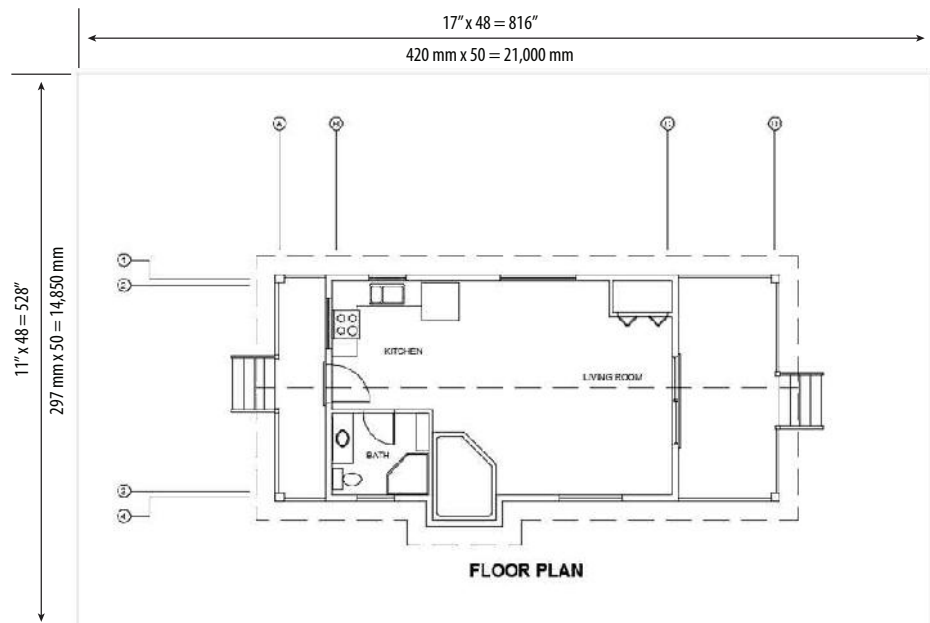

FIGURE 8.39: Approximating the viewable area for the $1/4" = 1'-0"$ (1:50) scale
To answer that question, you have to ask how big an area will fit on an 11" × 17" (A3, or 297 mm × 420 mm) sheet at $1/4" = 1'-0"$ (1:50) scale. The answer is quite simple. Every inch (millimeter) on the sheet represents 48" (50 mm) in the drawing (because 12" divided by $1/4$ is 48", and 50 mm divided by 1 is 50 mm). Therefore, you multiply each dimension of the sheet in inches (millimeters) by 48 (50). For this sheet, you multiply 11" × 48 (297 mm × 50) to get 528" (14,850 mm), or 45'-4". You multiply 17" × 48 (420 mm × 50) to get 816" (21,000 mm), or 68' (21 meters), as shown in Figure 8.39. So, the sheet represents a rectangle with dimensions of approximately 528" × 816" (14,850 mm × 21,000 mm) at a scale of $1/4" = 1'-0"$ (1:50), which is usually called *quarter-inch scale*.